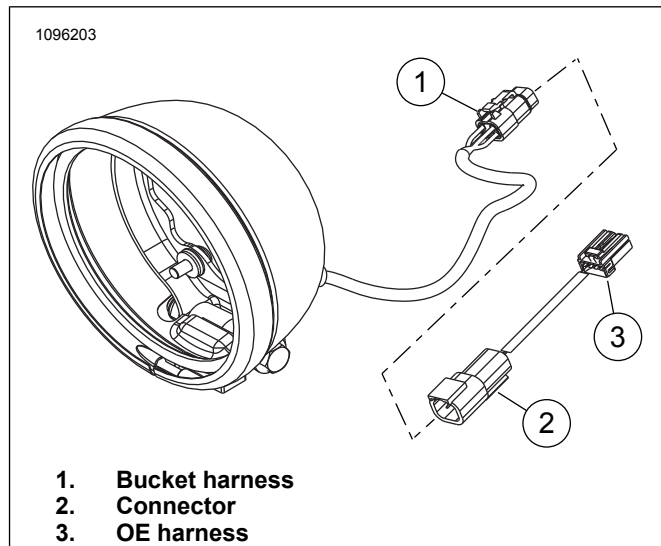

Figure 2. Harness Connection
8. See Figure 2 Connect harness (2) to connector (1) on back of bucket assembly and OE harness (3).